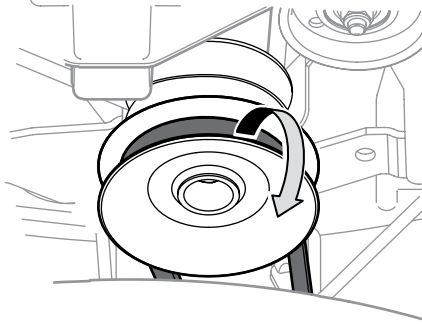

Figure 4-9
4. Remove the belt from around the tractor's PTO pulley. See Figure 4-9.
3. Remove the deck belt from around the riding mower's PTO drive pulley as shown in Figure 4-9. Simply roll one side of the belt OFF of the pulley and then work it OFF the pulley by continuing around the pulley until the belt is OFF of the pulley.
- Feed the deck belt through the belt keeper rod and work it around and onto the PTO drive pulley as shown in Figure 4-9.